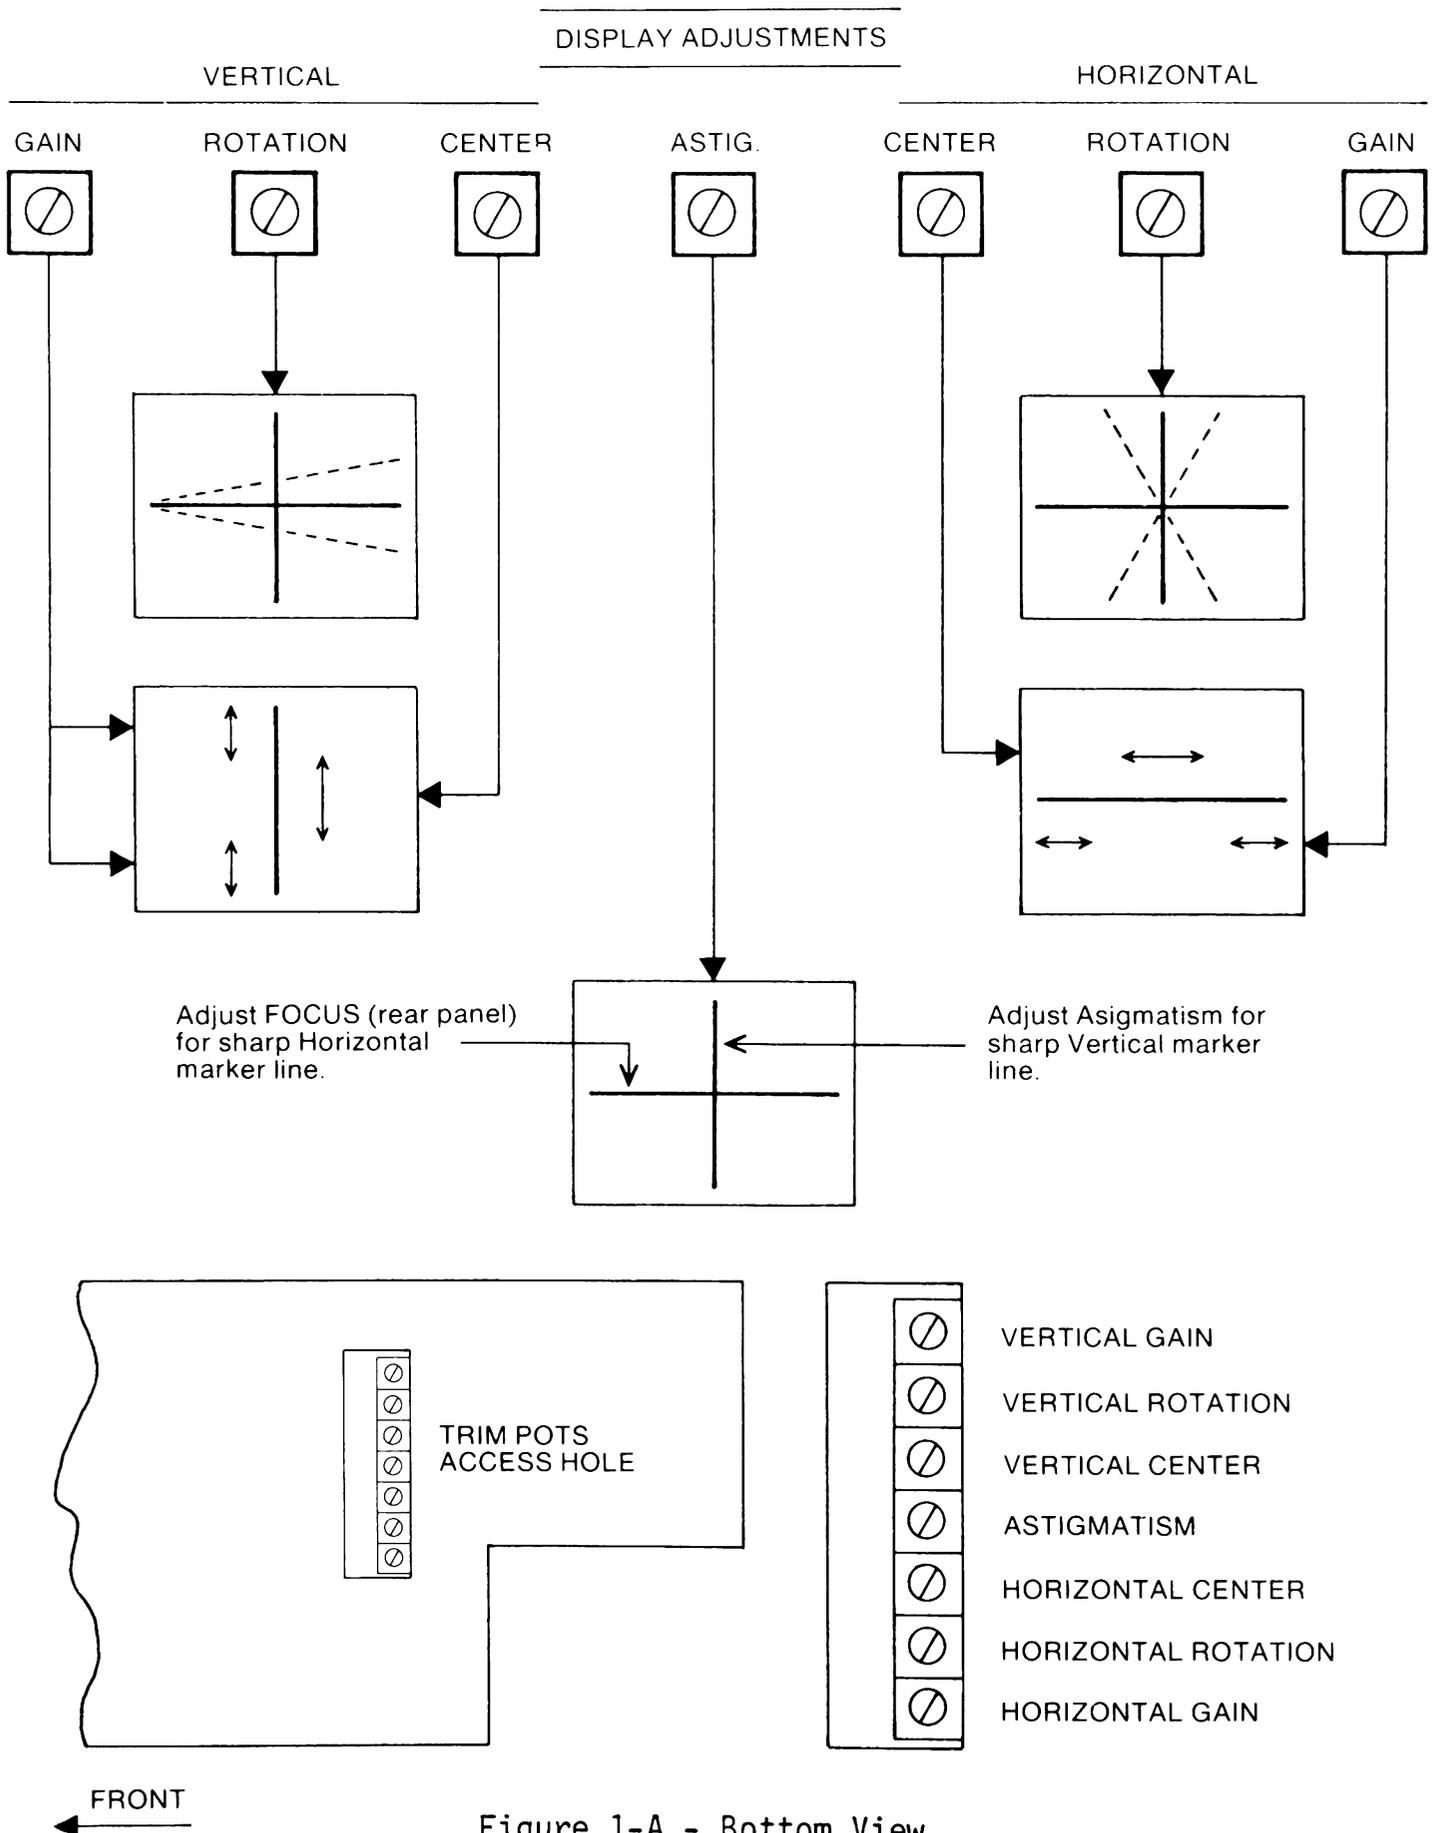

Figure 1-A - Bottom View
2. Apply the square wave signal to the (+) input BNC using the Attenuator network illustrated in Figure 1.